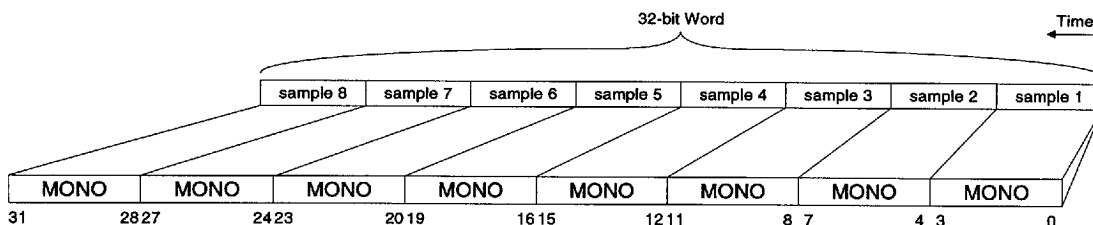

Figure 15. 4-bit Mono, ADPCM Audio Data
Additional data formats are supported in MODE 2 operation: 4-bit ADPCM, and 16-bit signed Big Endian. See Figures 15 through 18. With the addition of the Big Endian and ADPCM audio data formats, the CS4232 is compliant with the IMA recommendations for digital audio data formats (and sample frequencies).
In MODE 2, the WSS Codec also contains Adaptive Differential Pulse Code Modulation (ADPCM) for improved performance and compression ratios over μ -Law or A-Law. The ADPCM format is compliant with the IMA standard and provides a 4-to-1 compression ratio (i.e. 4 bits are saved for each 16-bit sample captured). For more information on the specifics of the format, contact the IMA at (410) 626-1380. Figures 15 and 16 illustrate the ADPCM data flow.